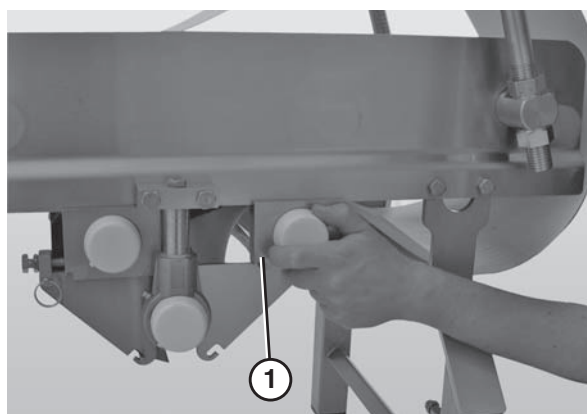

Figure 44
4. Slide the tension spindle assembly (**Figure 44, item 1**) out of the housing.